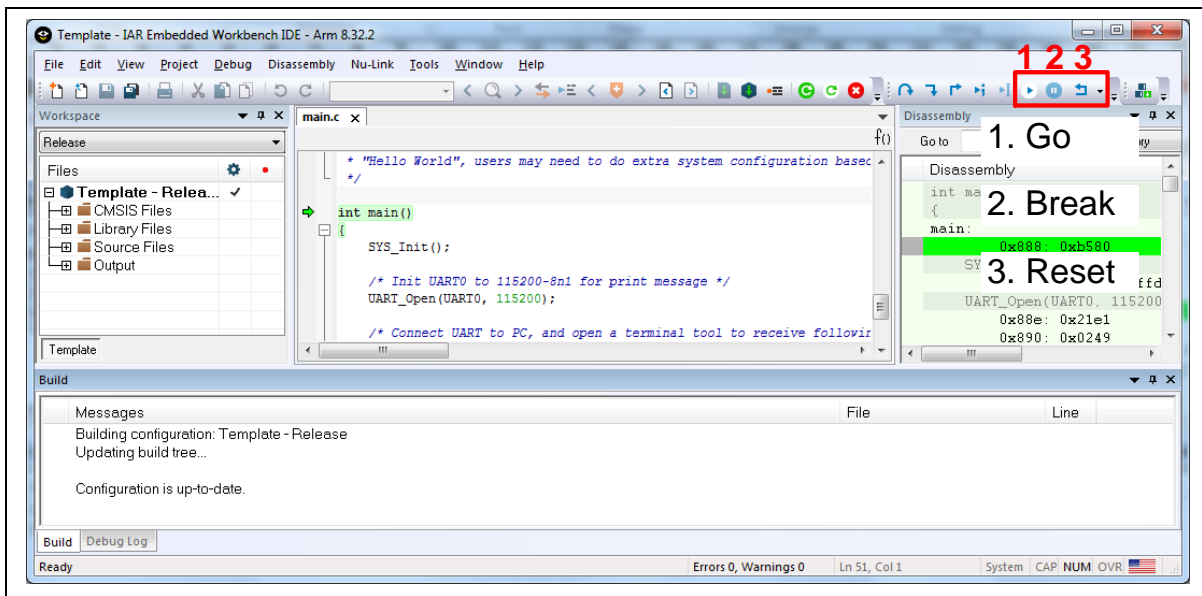
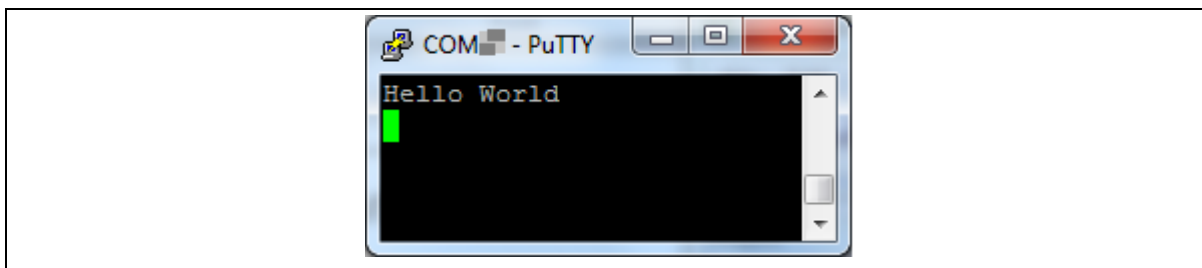

Figure 5-17 IAR EWARM Debug Mode
Figure 5-18 Debug Message on Serial Port Terminal Windows
4. Figure 5-17 shows the debug mode under IAR EWARN. Click “Go” and the debug message will be printed out as shown in Figure 5-18. User can debug the project under debug mode by checking source code, assembly language, peripherals’ registers, and setting breakpoint, step run, value monitor, etc.